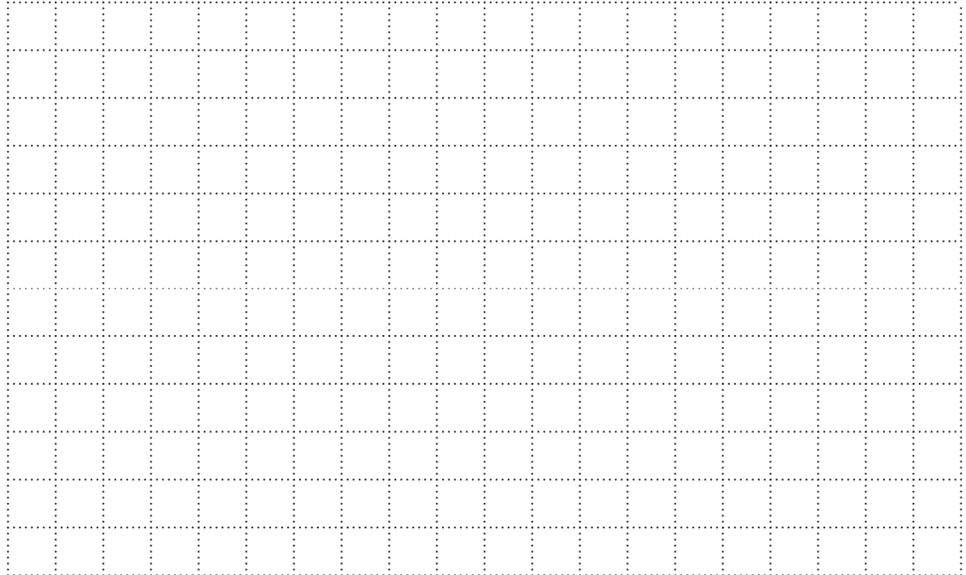

Figure 8. Head versus flow rate curves for a single pump and two pumps connected in series.
16. Using the values of Table 1, plot the head versus flow rate curves for a single pump and for two pumps connected in series in Figure 8.